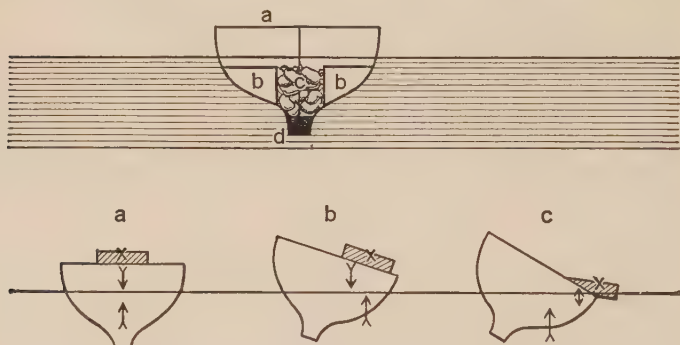

FIGURE 194.—HOW A BOAT IS MADE STABLE.
weighting the keel; (5) by using a center-board. The last two methods are now always used in sailboats to make them safe and allow them to sail against the wind. Explain each of the above pictured methods of securing stability (Fig. 194).